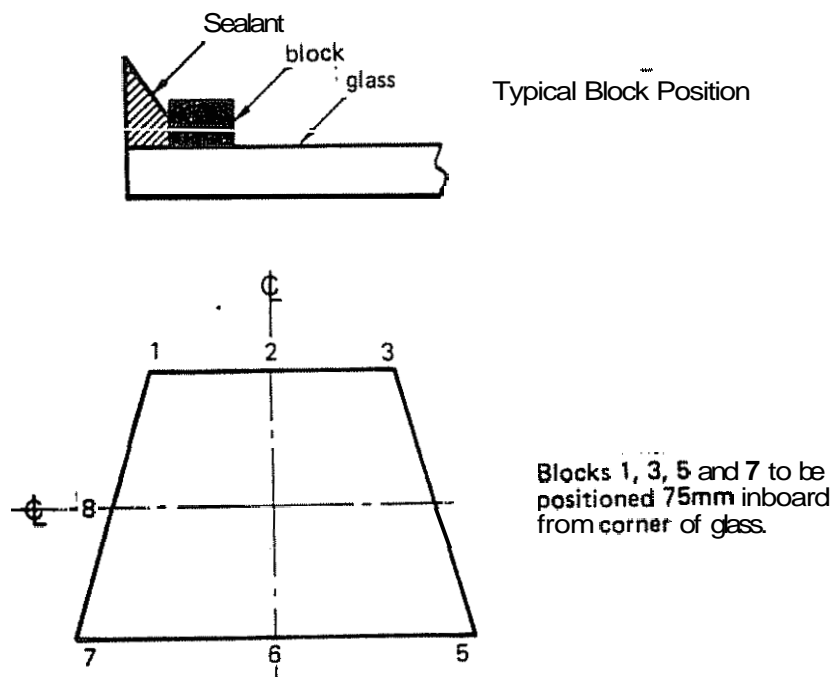

Fig. 31 Position of Rubber Spacing Blacks
9. Position the rubber spacer blocks on each corner of the screen as shown in fig. 31. Spacer block Part No. A075U0588Z, 8 off, size 4mm x 4mm x 10mm.